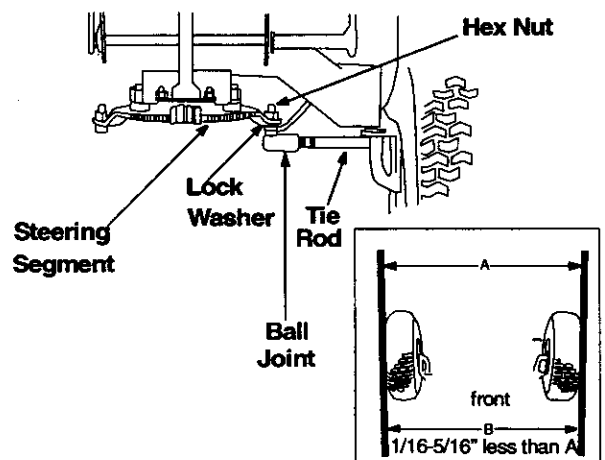

Figure 22
- Using 9/16" wrench, remove the hex nut and lock washer holding ball joint to the steering segment. See Figure 22 . You may need to hold the jam nut below the steering segment with a 1/2" wrench.
- Loosen the jam nut on the tie rod using a 9/16" wrench. See Figure 22 .
- Adjust the ball joint in or out until the wheels toe-in approximately 1/16"-5/16" (Dimension "B" should be approximately 1/16"-5/16" less than dimension "A"). See Figure 22 .